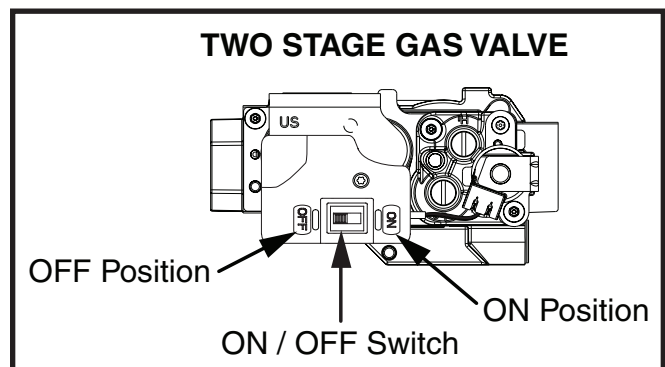

Figure 2. Gas Valve
7. Set the gas valve ON/OFF knob / switch to the OFF position. See Figure 2 for gas valve type and knob / switch location.
5. Set the gas valve ON/OFF knob / switch to the OFF position. See Figure 2 for gas valve type and knob / switch location.